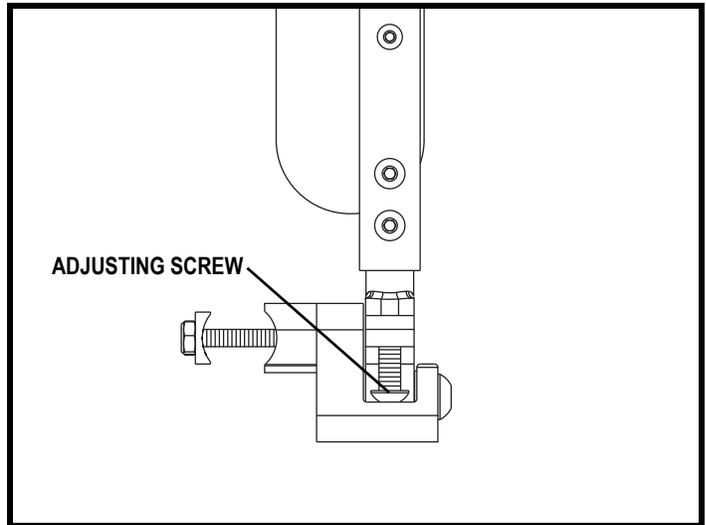

Figure 34. Non-latching Flip-up Armrest Angle Adjustment
2. Turn the adjusting screw to raise or lower the front of the armrest. See **figure 34**.